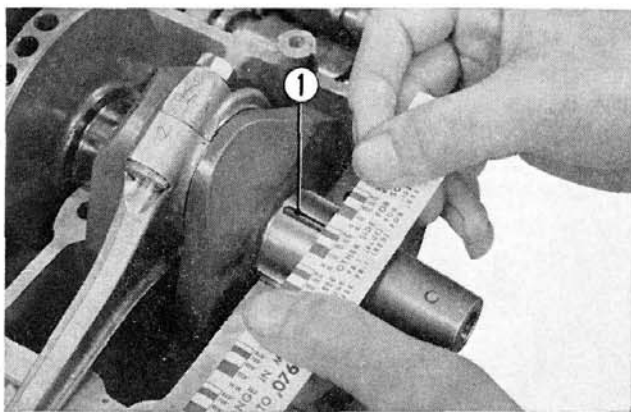

Fig. 3-79 ① Press gauge
- c. Assemble the crankshaft, lower crankcase and torque down the mounting bolts. Next, disassemble the lower crankcase, and check the gauge which had been flattened by comparing it with the scale on the package of the press gauge. (Fig. 3-79)